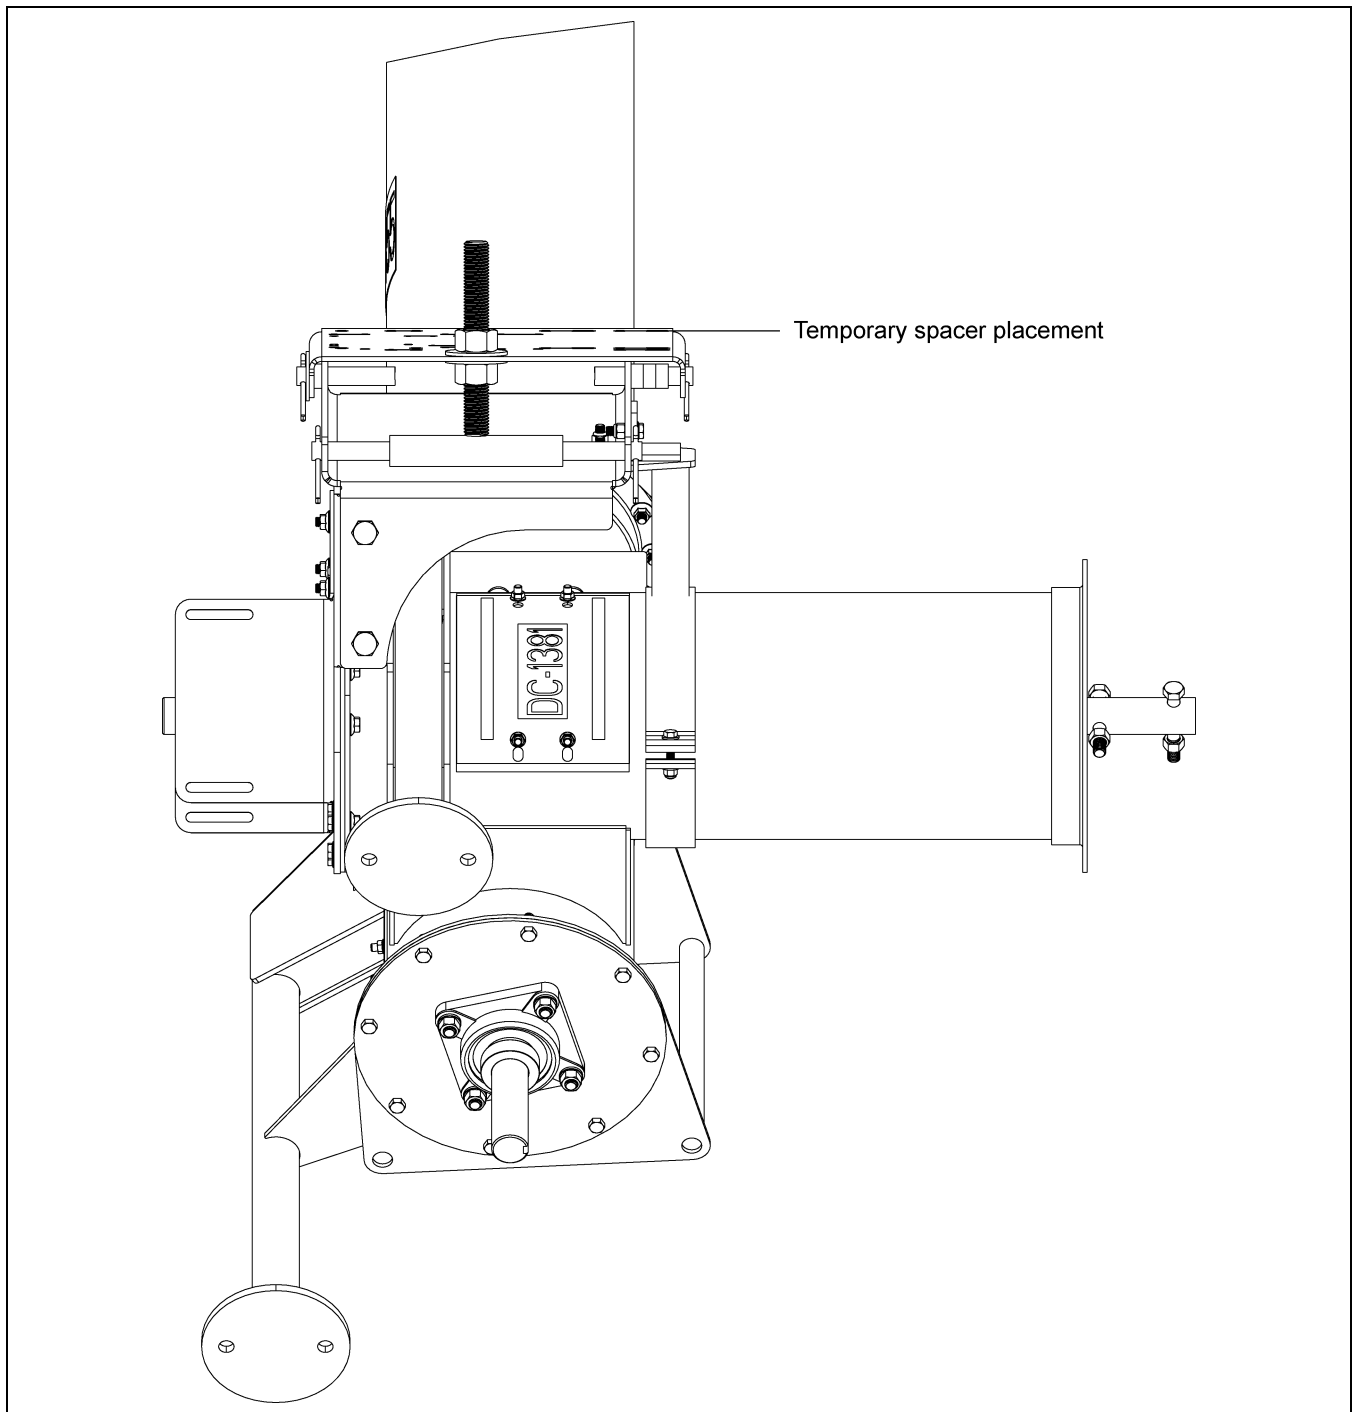

Figure 4S
4. When the pivot rod begins to extend through the back pivot hole on the motor mount plate, install the spacers BETWEEN it and the inner face of the motor plate. (See Figure 4S.)